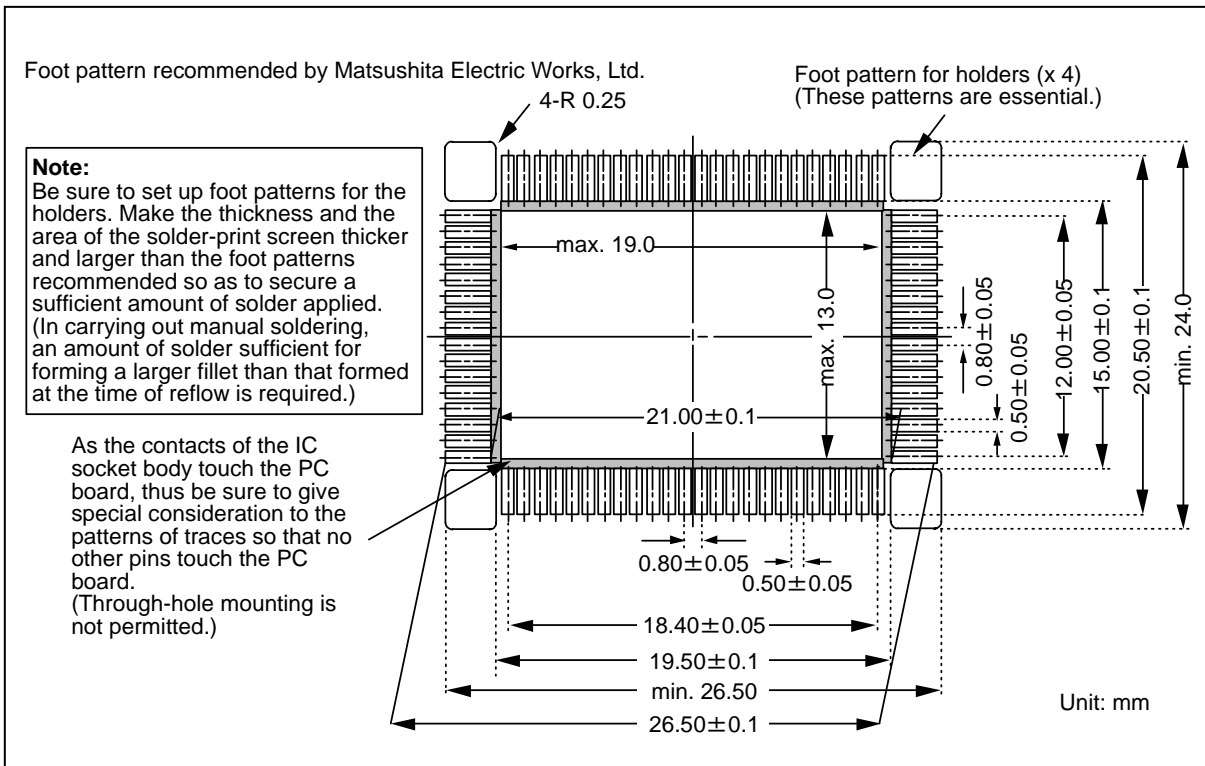

Figure 4 Dimensions of a target foot pattern (Quoted from the specifications of IC socket for QFP by Matsushita Electric Works, Ltd.)
- Holder patterns are required at each of the four corners of the target foot pattern. (see Figure 4).